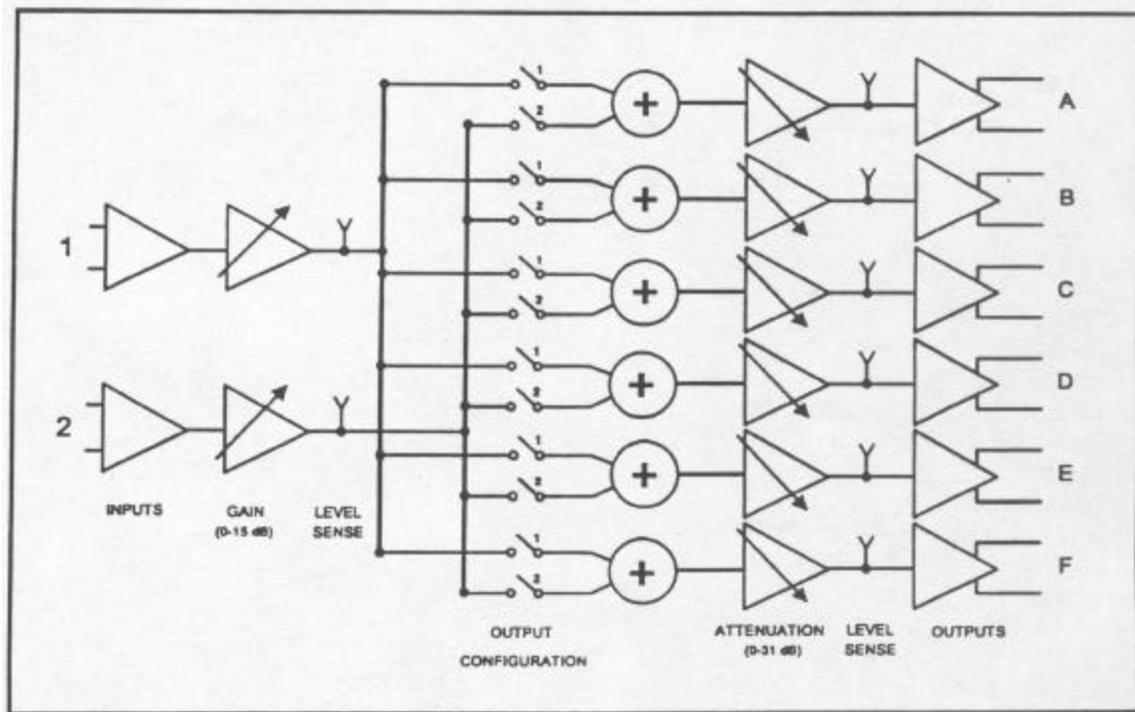

Figure 5 – Block Diagram
In order to obtain the maximum performance from your 4926, use the following set-up procedure and refer to the block diagram in figure 5.
- B. Set the 4926 output assignments using the 2 dedicated levers in each output DIP switch. Refer to figure 5, if necessary.